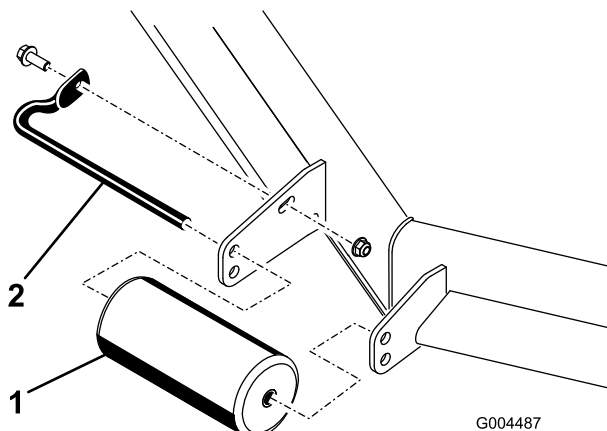

Figure 10
4. Remove the fasteners securing each roller on your mower and move the rollers up or down as desired; refer to Figure 10 through Figure 14 as applicable for your mower.